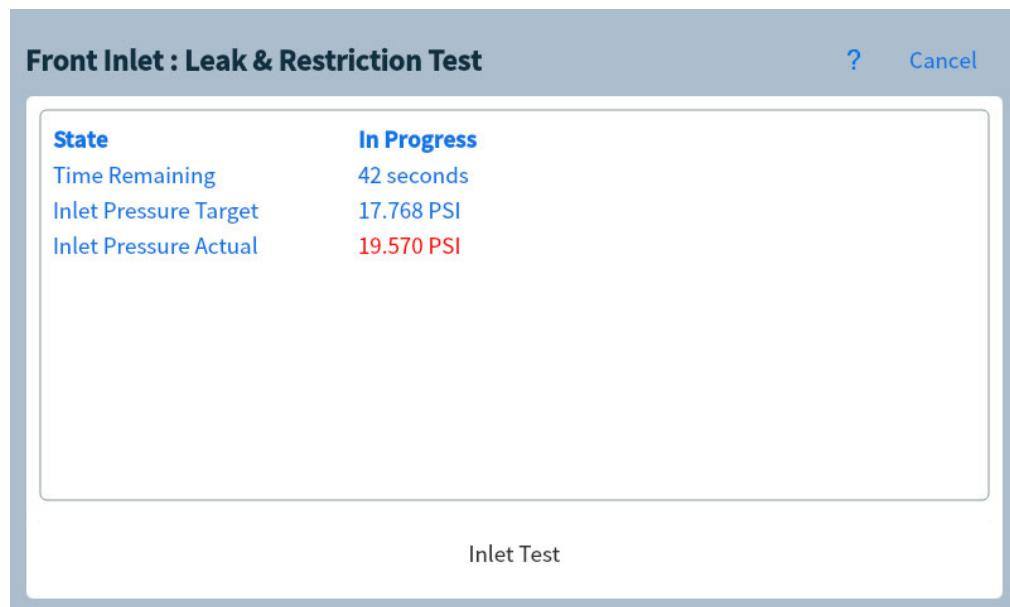

Figure 35. Leak & Restriction Test page
- 3 Select **Start Test**. Testing is initiated. Test details are displayed along with test results. See Figure 35.